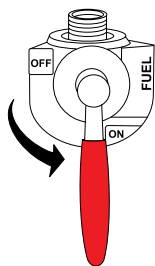

Figure 13. Fuel Tank ON/OFF Valve (ON)
2. Place the fuel tank ON/OFF valve (Figure 13) in the **ON** position.